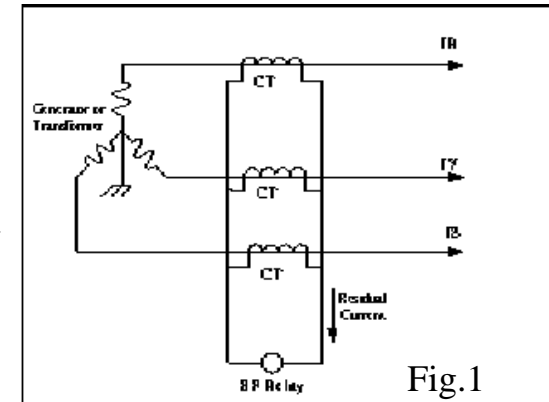

Fig.1
- The earth-fault relay is connected such that the residual current flows through it (Fig.1 and Fig. 2).